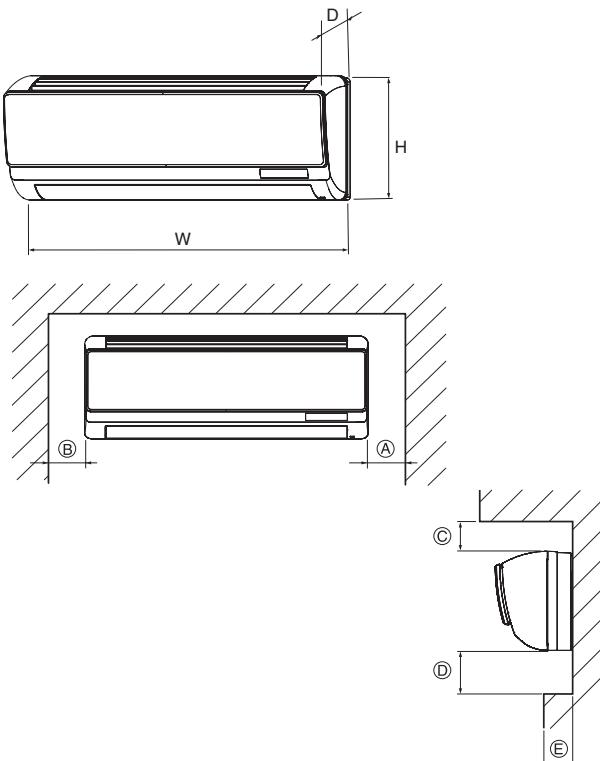

Fig. 2-1
①	Wall-fixing bracket	1	Fix at the back of the unit
②	Tapping screw 4 × 25	8
③	Felt tape	1
④	MA remote controller cable	1
⑤	Wireless receiver cable	1
⑥	Band	1
⑦	Fastener	1
⑧	Cable	1
2.1. Outline dimensions (Indoor unit) (Fig. 2-1)